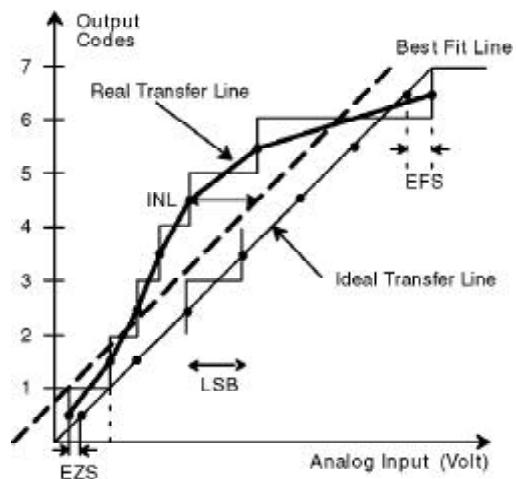
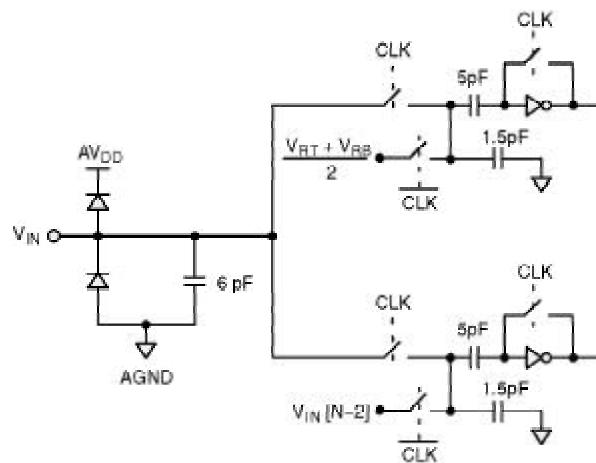

Figure 3. INL Error Calculation
Figure 4. Equivalent Input Circuit
1. The difference between the measured and the ideal code width ($V_{REP}/256$) is the DNL error (Figure 3). The INL error is the maximum distance (in LSBs) from the best fit line to any transition voltage (Figure 4). Accuracy is a function of the sampling rate (FS).